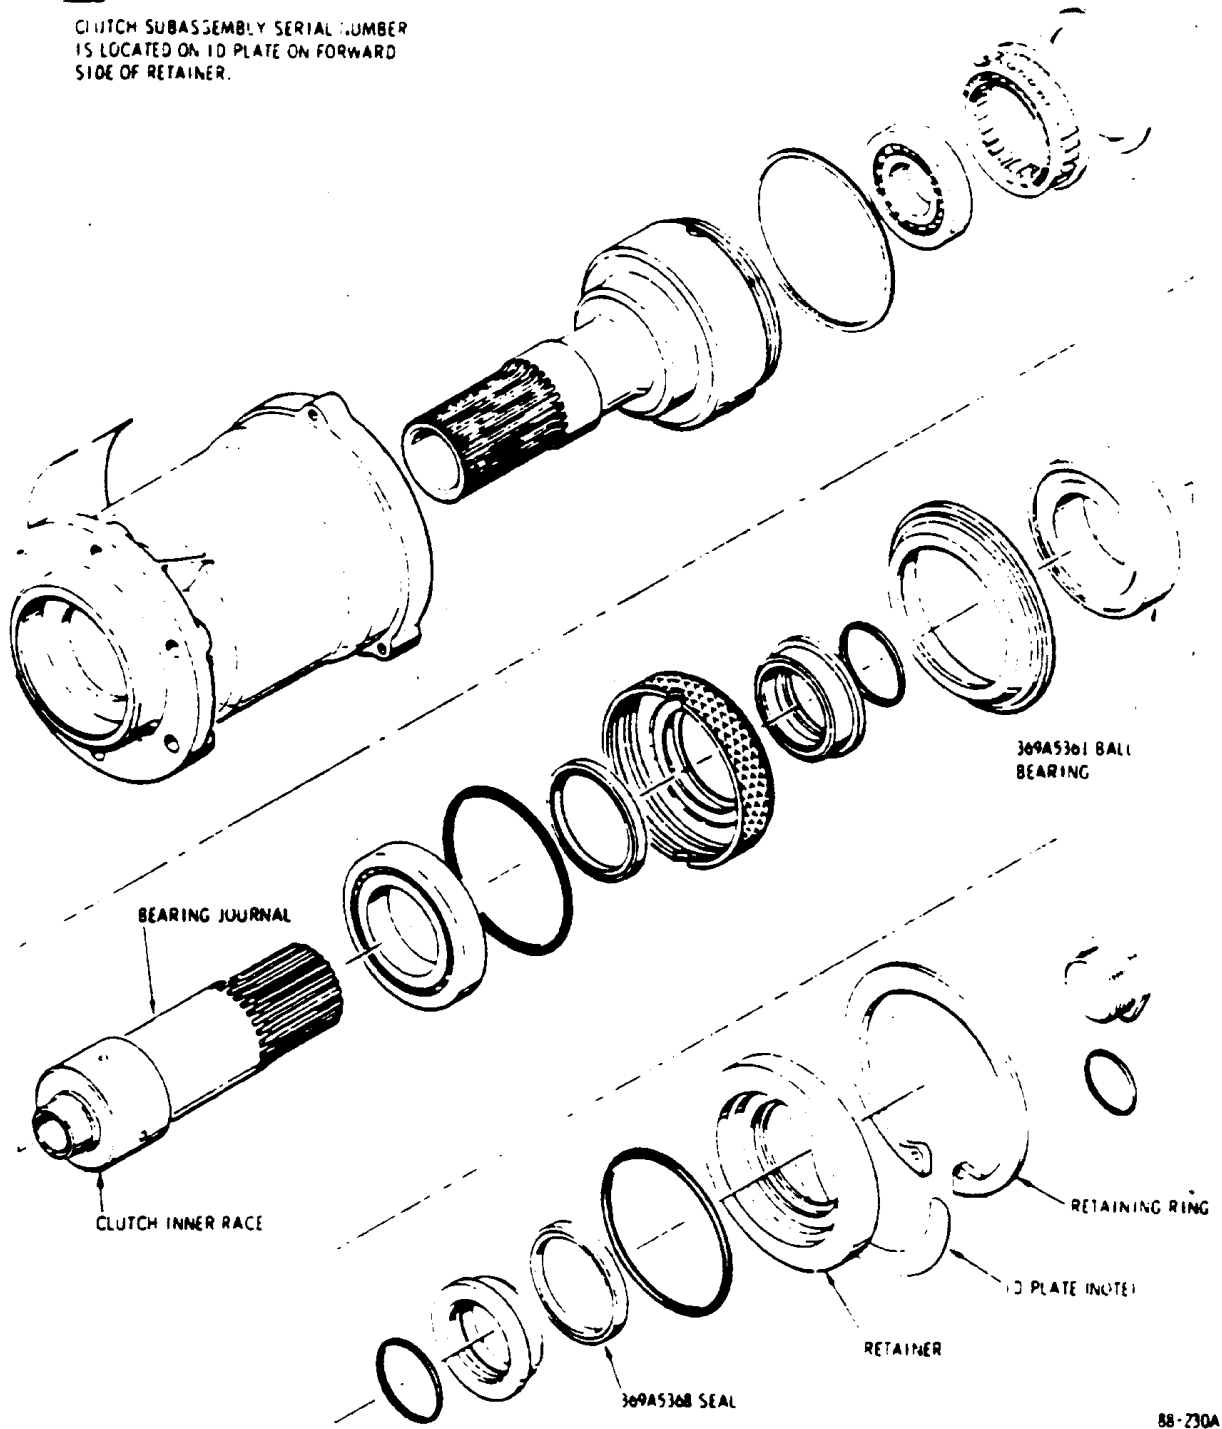

Figure 1. Overrunning clutch assembly.
- (3). Temporarily install coupling bolt, to maintain internal fluid.
- (4). Remove clutch retainer to expose 369A5361 ball bearing (see Figure 1).
- (5). Check 369A5361 ball bearing for excessive loss of grease.
- (1). Remove clutch subassembly PN 369A5350-21 per Basic HMI.
- (2). Temporarily install coupling bolt, to maintain internal fluid.
- (3). Remove clutch retainer to expose 369A5361 ball bearing (See Figure 1).
- (4). Check 369A5361 ball bearing for excessive loss of grease.